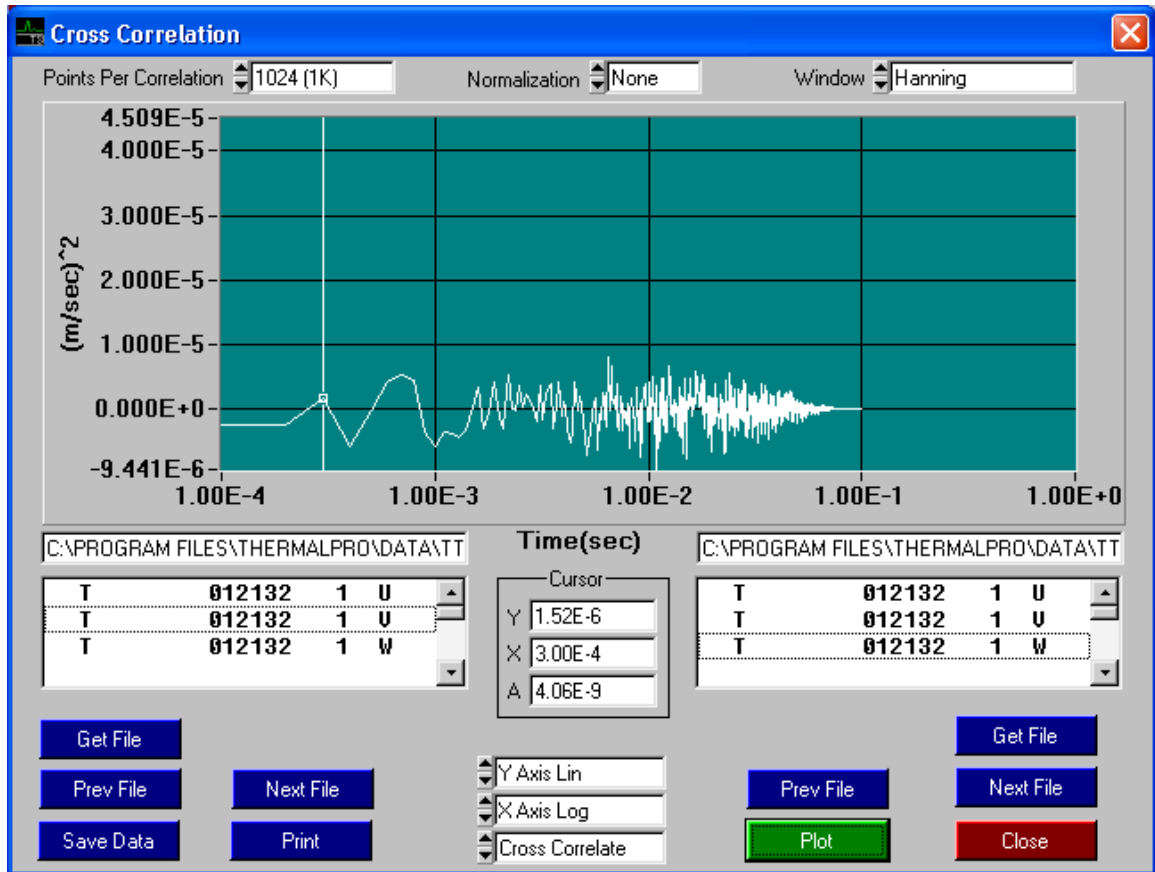

Figure 7-14
4. Click on **Correlation**. The Correlation screen appears (Figure 7-14). This screen allows you to perform autocorrelation on velocity data files. You can also do crosscorrelation of two velocity signals from the same data file or from different data files.